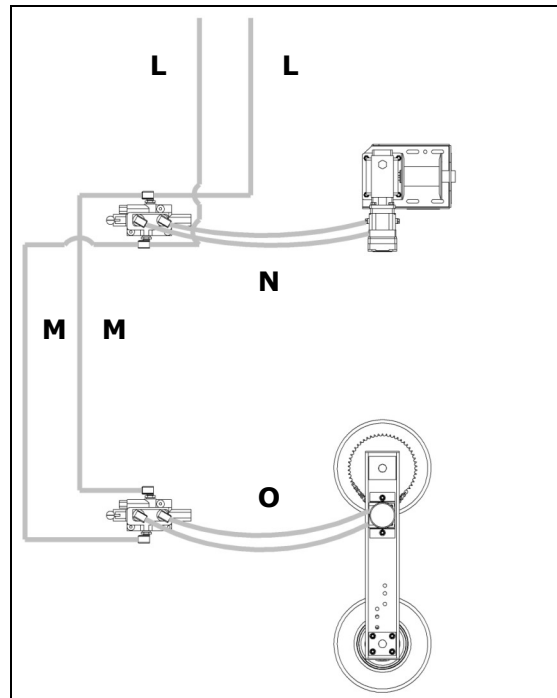

Figure 5
Assemble hoses as shown in Figure 5. In this setup the valves are connected in parallel. Note connector(K) is not needed. This will also involve using the plug supplied with each valve to close the center of the valve.